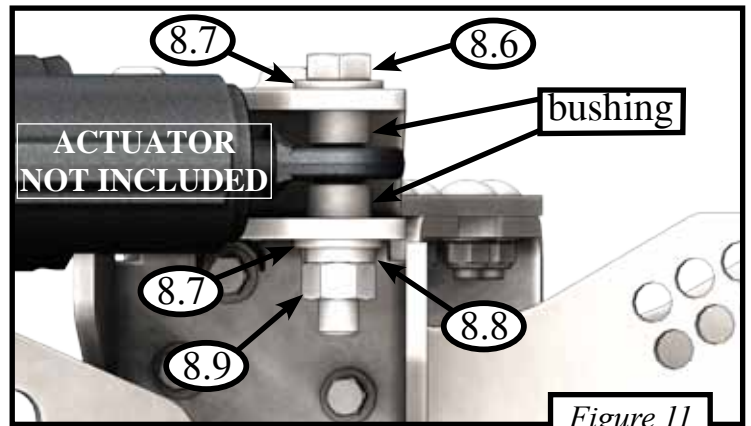

Figure 11
12. Place bolt (8.6) through flat washers (8.7), bushings, Hydraulic Actuator (105965 NOT INCLUDED), and front brackets. Slide washer (8.7), lock washer (8.8), and nut (8.9) onto the bolt (8.6) shown in *Figure 11*. Tighten bolt down snug.